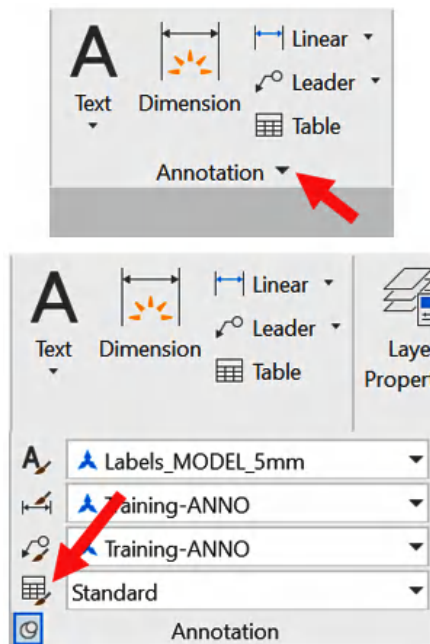

Figure 7.30: Expanding the Annotation panel on the Home tab and then clicking on the Table Style icon
1. To create new table styles, you need to access the **Table Style** dialog box. You can do this in two ways. The first is from the **Home** tab/**Annotation** panel, as shown in *Figure 7.30*.